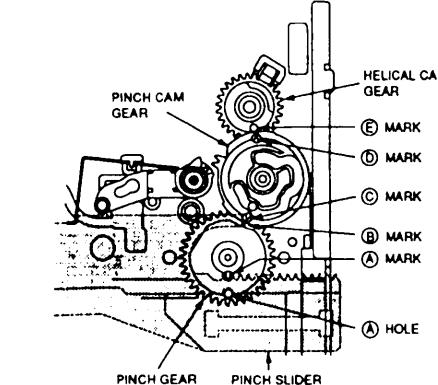

Fig 18.
- Align the (A) hole on the PINCH SLIDER with the (A) mark on the PINCH GEAR through the hole on the chassis as shown in Fig 18.
- Align the (B) mark on the PINCH GEAR with the (C) mark on the PINCH CAM GEAR and the (D) mark on the PINCH CAM GEAR with the (E) mark on the HELICAL CAM GEAR as shown in Fig 18.